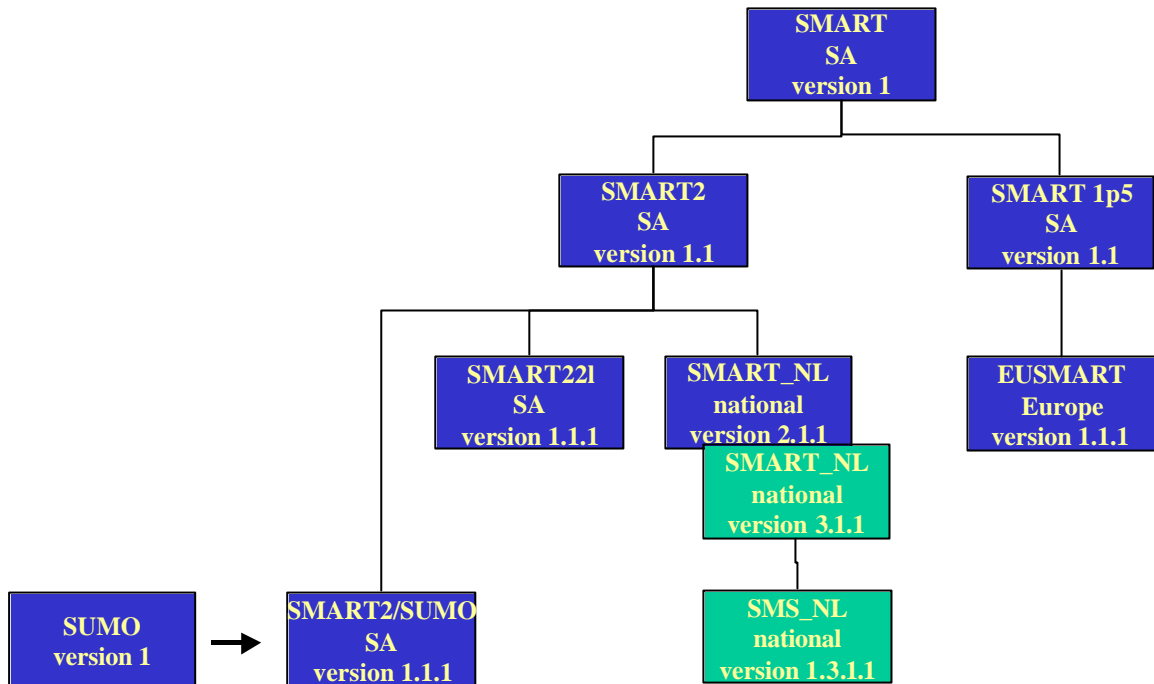

Figure 4 Model development (SA = stand alone: operates for one point only)
*The place of SMART\_NL in the whole development of several SMART-models, can be seen in Table 9 and Figure 4 (the green box).*